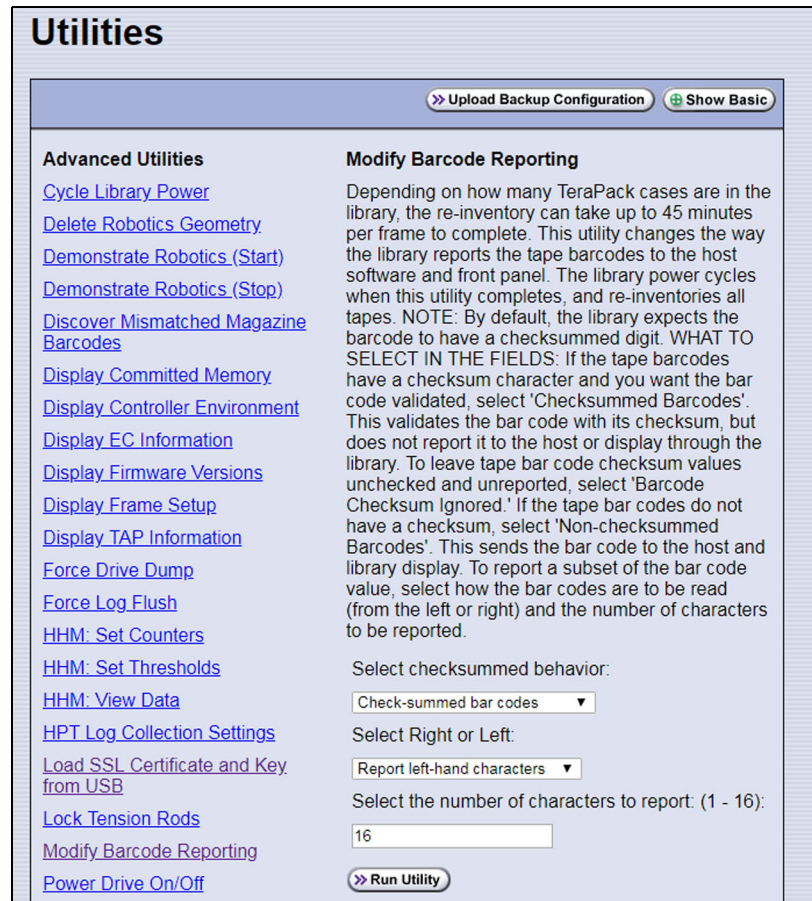

Figure 74 Use the Modify Barcode Reporting utility to change how the library handles barcode labels.
6. Select the **Modify Barcode Reporting** utility. The screen refreshes to show information about the utility. Figure 74 shows the default settings.